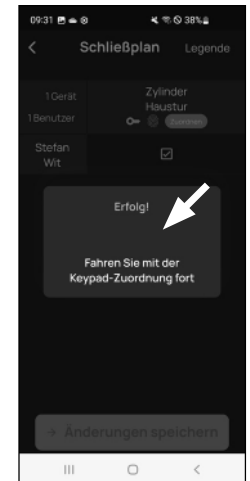

Fig. 6
- The data will be transferred. A confirmation will appear after a brief moment and at the same time a request to now assign the keypad. Tap on the confirmation message (Fig. 6).